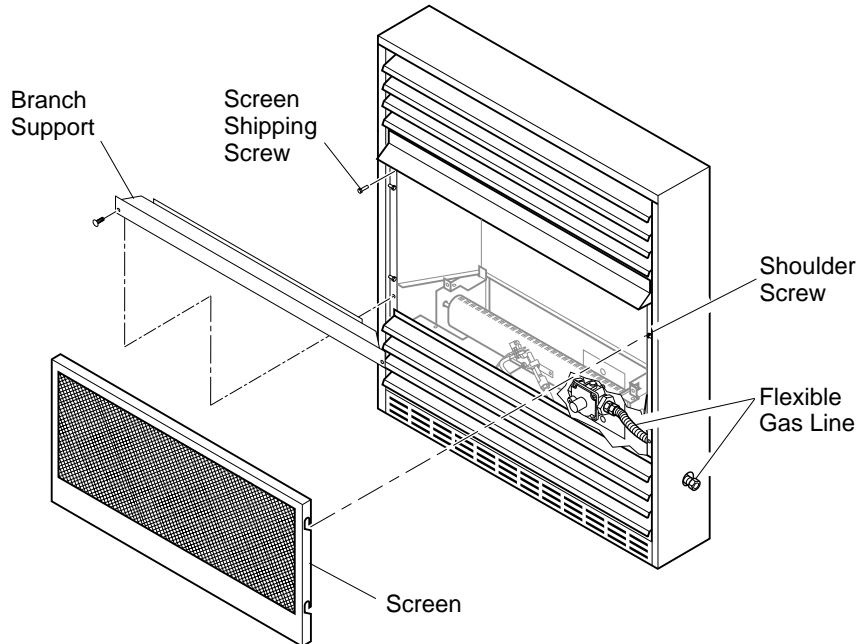

Figure 24 - Removing Branch Support From Fireplace
2. Remove screws that attach branch support to fireplace (see Figure 24). Carefully lift up branch support and remove from fireplace (see Figure 24).